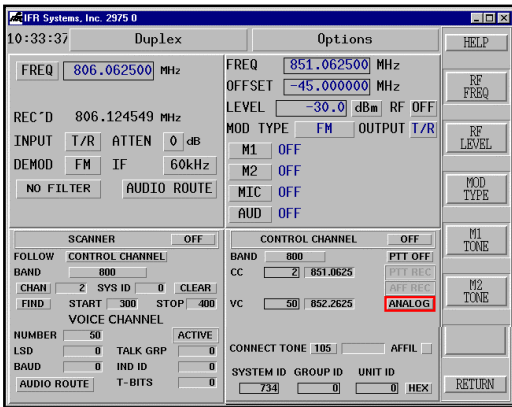

Figure 8.0 SN/SZ Repeater Simulator with Scanner Function (800 MHz band)
To set up the control channel, enable the SmartNet™/SmartZone™ repeater function as well as the scanner function. Select numbers <24> and <26> on the "Options" menu, or <SHIFT>, <MODE> and then select item 24 and 26. Figure 8.0 will show you the SmartNet™/SmartZone™ repeater simulator mode with the scanner function enabled. This particular setup will allow you to enter in the valid control and voice channel parameters, or, if they are not known, to find the control channel in a particular area by monitoring it off the air and then use the information retrieved off of any system found.